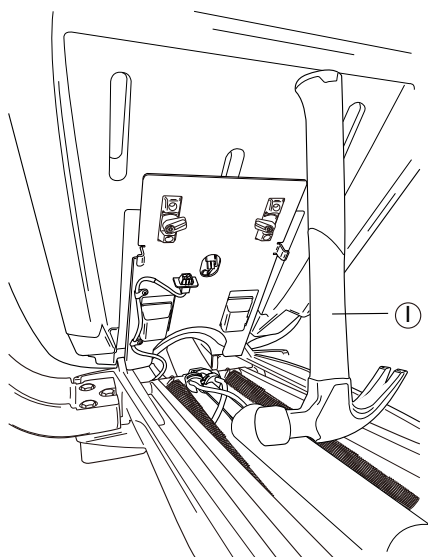

Figure 4 Lifting the seat
1. After assembling the upholstered seat to the chair, lift the seat and use a standard hammer (Figure 4, item 1) to hold the seat up as shown below.